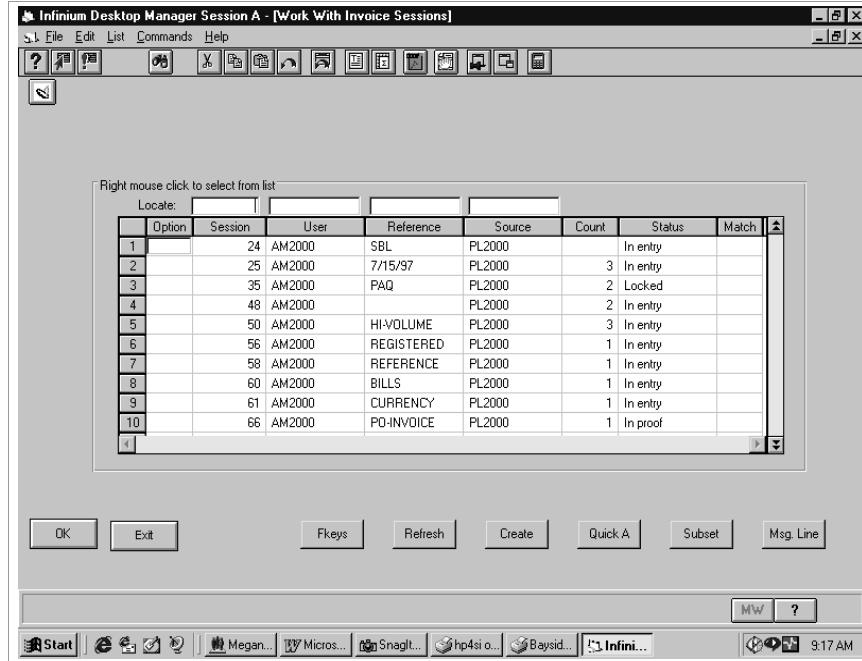

Figure 7-6: Work With Invoice Sessions screen
- 2 Select *Work with invoice entry [WWI]*. The system displays the screen shown in Figure 7-6.